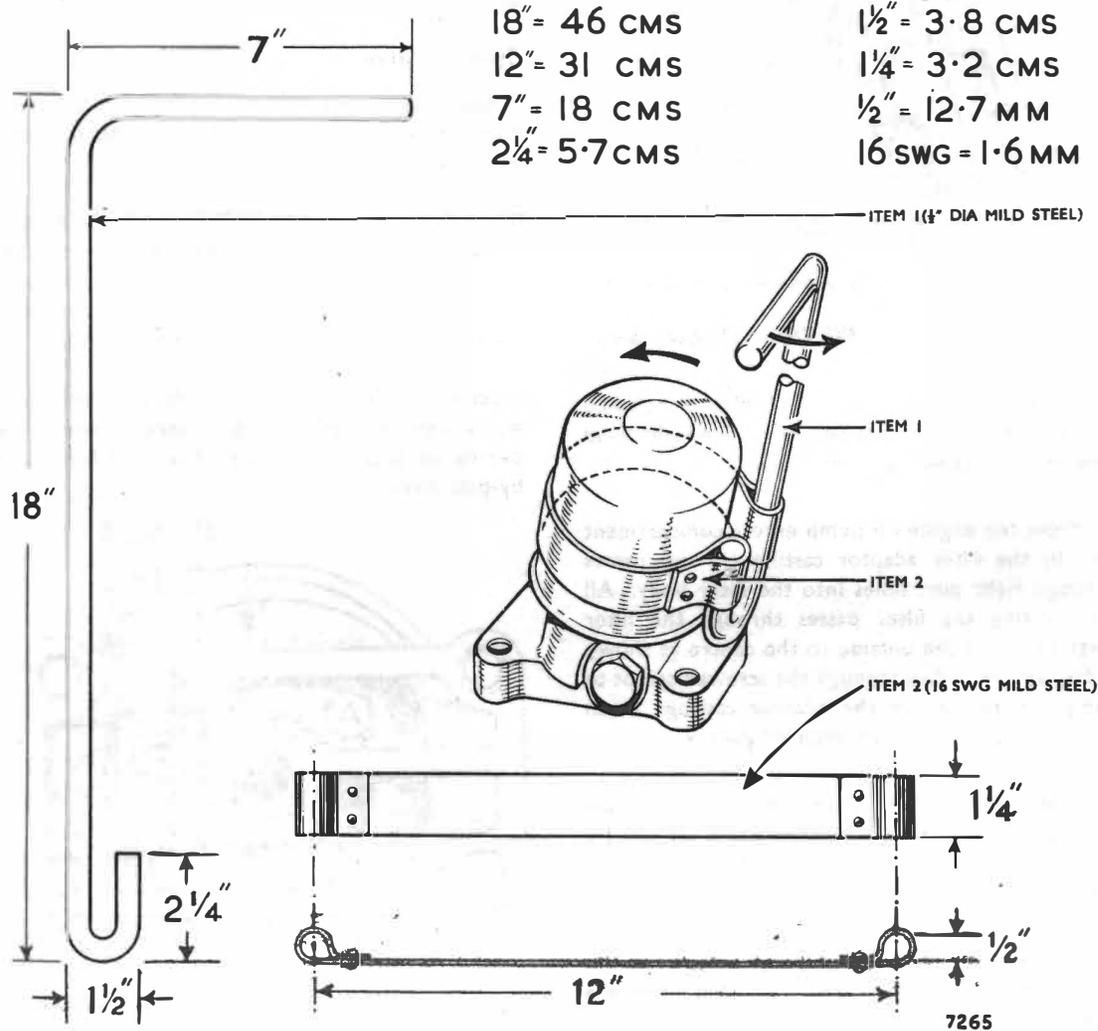

Fig. 54. Strap wrench—for removing throw away oil filter
The rubber joint ring (2) on the filter base tends to stick to the adaptor casting (1) joint face, and if the filter cannot be removed by hand it can be unscrewed with a strap wrench, which can be made from the particulars given in Fig. 54.